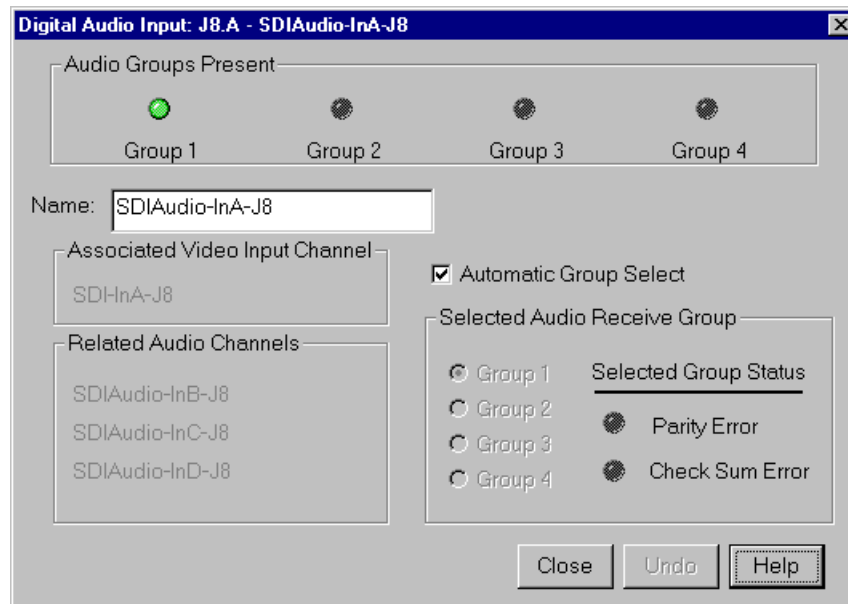

Figure 29. Digital Audio Input dialog box
1. Select **Audio Input** from the configuration tree, and then click or double-click a digital audio name from the list, and the Digital Audio Input dialog box appears (see Figure 29).